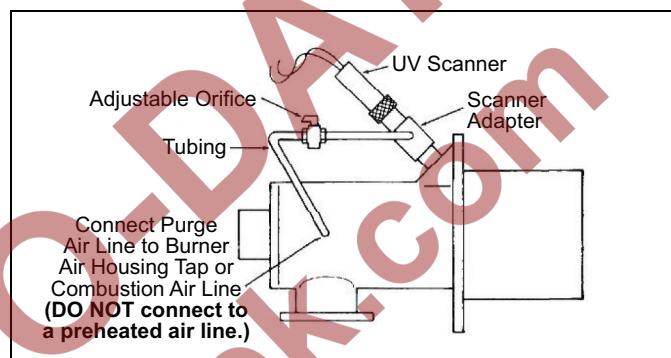

Figure 1. Cooling the UV Scanner
3. Do not allow the scanner to operate at temperatures above the manufacturer's published limit. Scanners can be overheated by high ambient temperatures, heat conducted and radiated from burner and furnace surfaces, or a combination of the two. On most installations, scanners can be kept cool by purge air blown into the scanner adaptor as shown in Figure 1.
Eclipse UV scanner adaptors and Heat Block Seals include tapped connections for purge lines. The adjustable orifice cock in Figure 1 permits setting the purge air at the optimum flow rate.